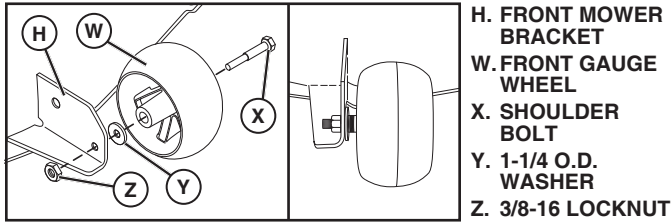

Fig. 4
2. ASSEMBLE FRONT GAUGE WHEEL (W) TO FRONT OF MOWER (See Fig. 4)